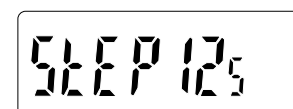

Figure 4-10 .
- 1 Press and hold **LOW C** until the display indicates the current frequency step size (takes about 3 seconds). For example, the following display (Figure 4-10) represents a frequency step size of 12.5 KHz.